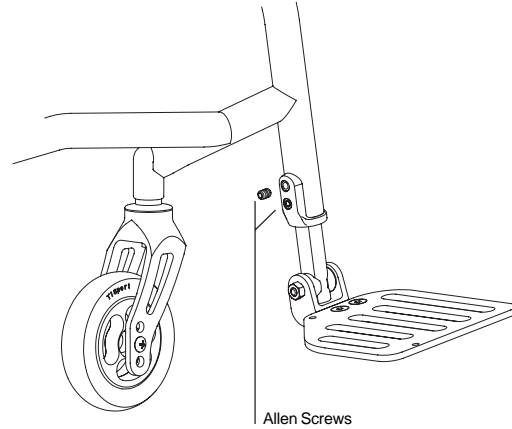

Figure 6
1. Loosen the two Allen Screws in the left clamp that secures the footrest to the frame. See Figure 6. Loosen each Allen Screw until the entire head of the screw is completely visible outside the clamp.
1. Loosen the Allen Screws in the two clamps that secure the footrest to the frame. See Figure 6. Loosen each Allen Screw until the entire head of the screw is completely visible outside the clamp.